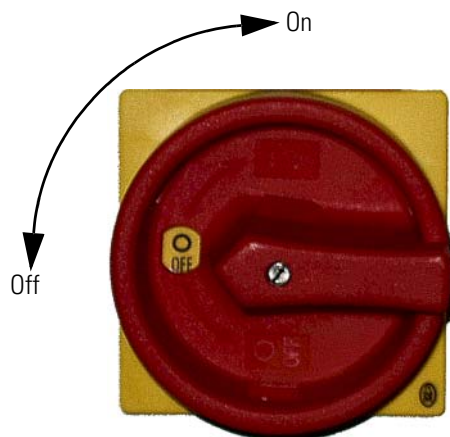

Figure 2-1. Main power switch in Off position
To turn off the instrument in an emergency, place the main power switch (located on the power panel at the right side of the LTQ Orbitrap) in the Off (O) position. This turns off all power to the instrument, including the linear ion trap, multiple socket outlets for the recirculating chiller and data system, and the vacuum pumps. The main power switch must be turned 90° anti-clockwise to switch off the instrument. See Figure 2-1.